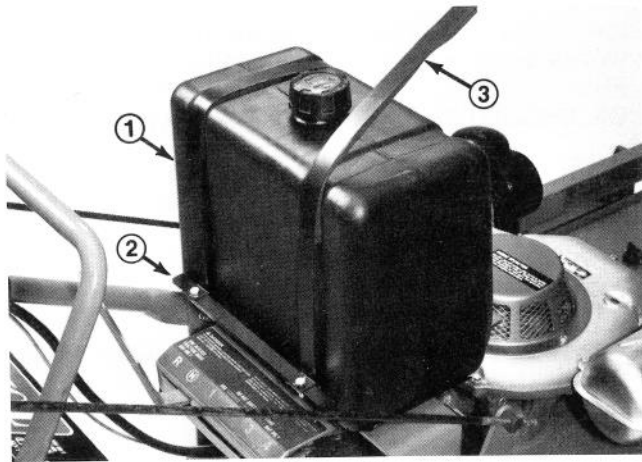

Figure 7
1. Position fuel tank onto mounting plate so fitting opening is to left side (Fig. 7).
2. Secure fuel line straps to rear of fuel tank mounting plate with (2) 1/4-20 x 5/8" lg. capscrews and locknuts (Fig. 7).